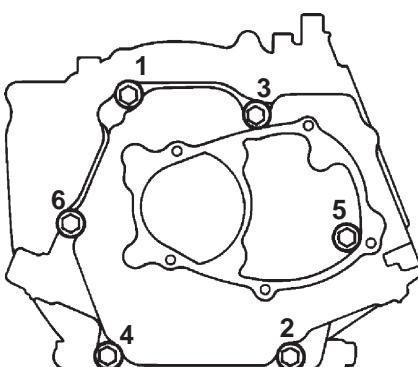

Figure 11-22. CS4, CS6. Closure Plate Torque Sequence.
- On pump (threaded crankshaft) models only, install two or three of the fasteners securing the closure plate to the crankcase. Check crankshaft end play using a dial indicator. End play must be 0.0/0.2 mm (0.0/0.007 in.). If end play is not within the specified range, shims are available in the following thicknesses: 0.1 mm (0.0039 in.), 0.2 mm (0.007 in.), and 0.3 mm (0.011 in.) for CS4 and CS6; 0.1 mm (0.0039 in.), 0.2 mm (0.007 in.), 0.3 mm (0.011 in.), and 0.4 mm (0.015 in.) for CS8.5-12. When proper end play has been established, install all screws and torque in the sequence shown in Figure 11-22 or 11-23.
On all other models, install the hex flange screws securing the closure plate to the crankcase. See Figure 11-22 or 11-23.